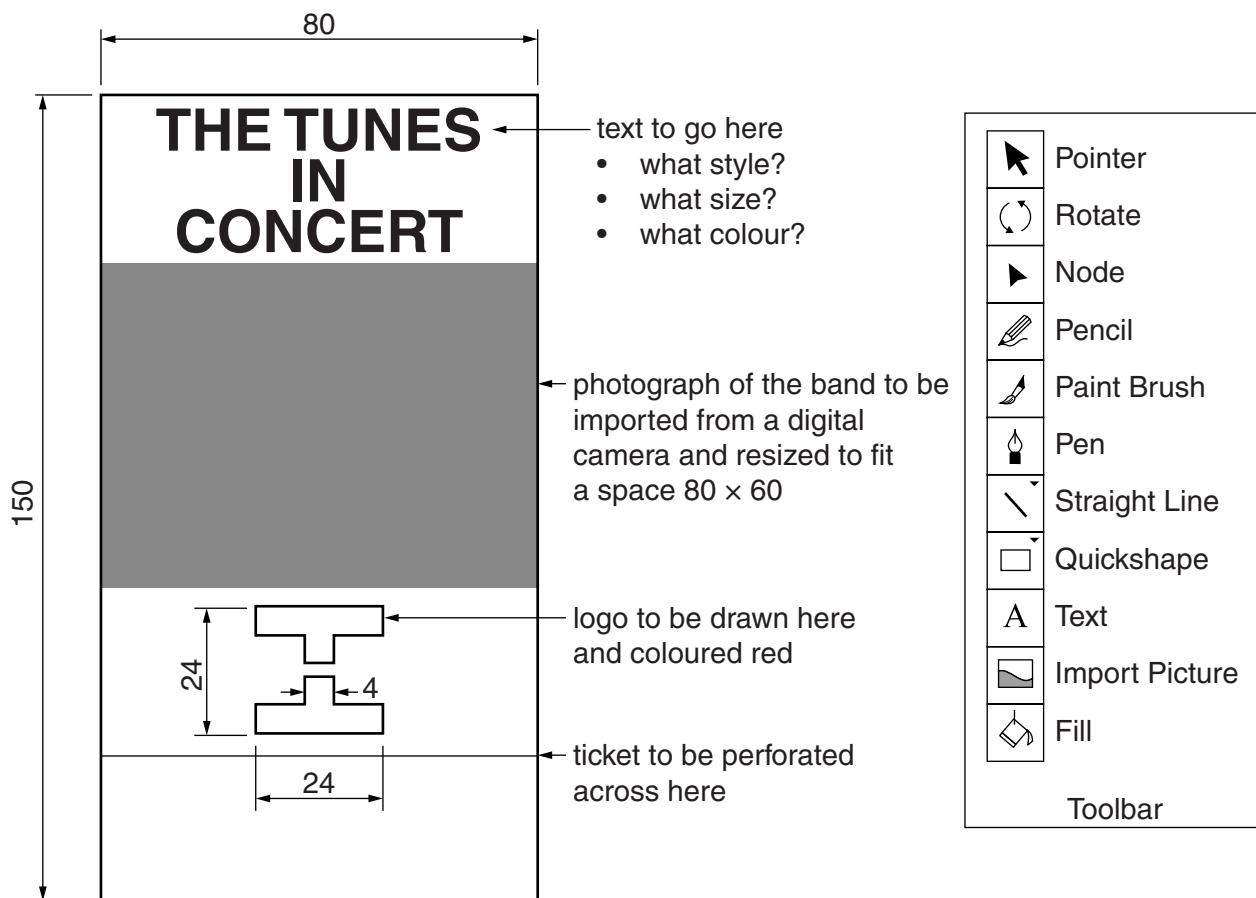

Fig. 3
- 3 Fig. 3 shows an idea for a ticket to a concert to be given by a band called 'The Tunes'. The design will be produced on a computer using tools from the toolbar shown in Fig. 3.